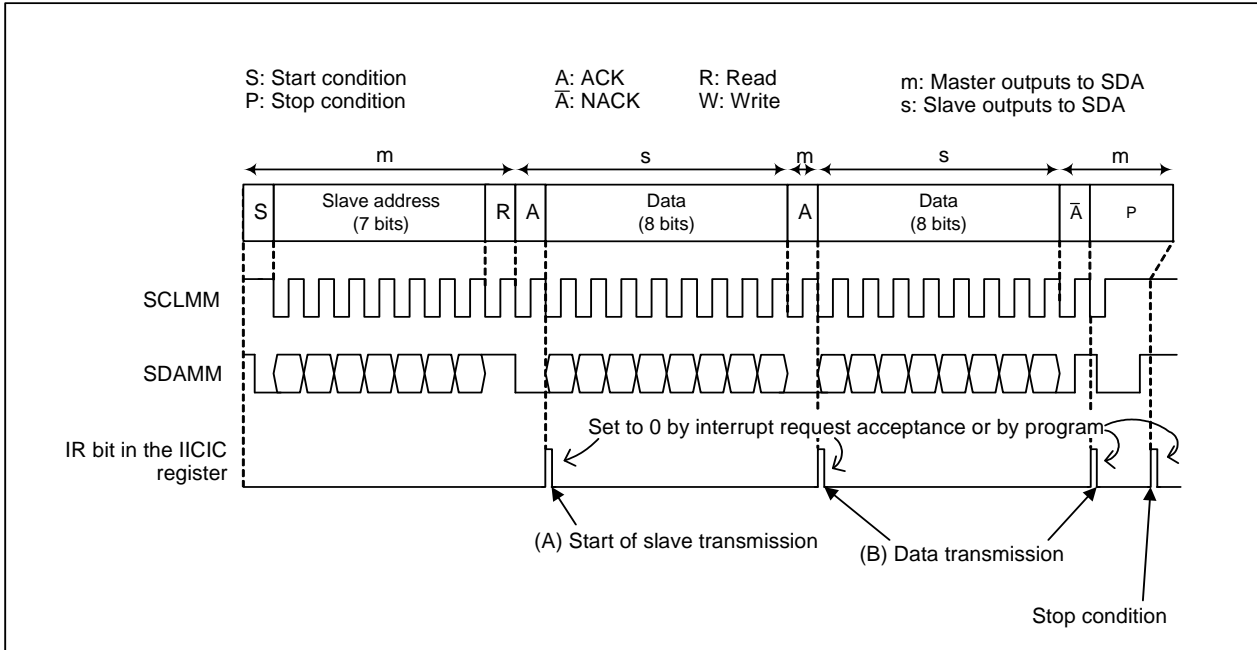

Figure 25.20 Example of Slave Transmission
- (1) Read the received data from the S00 register
- (2) Set the ACKBIT bit in the S20 register to 1 (no ACK presents) because the data is the last one.
- (3) Write a dummy data to the S00 register.
The slave transmission is described in this section. The initial settings described in 25.3.10.1 “Initial Setting” are assumed to be completed. Figure 25.20 shows the example of slave transmission. The following programs (A) to (B) are executed at the (A) and (B) in Figure 25.20, respectively.